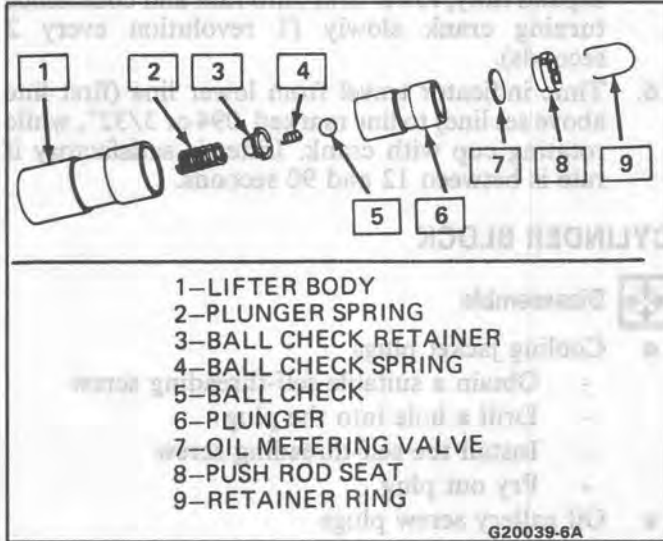
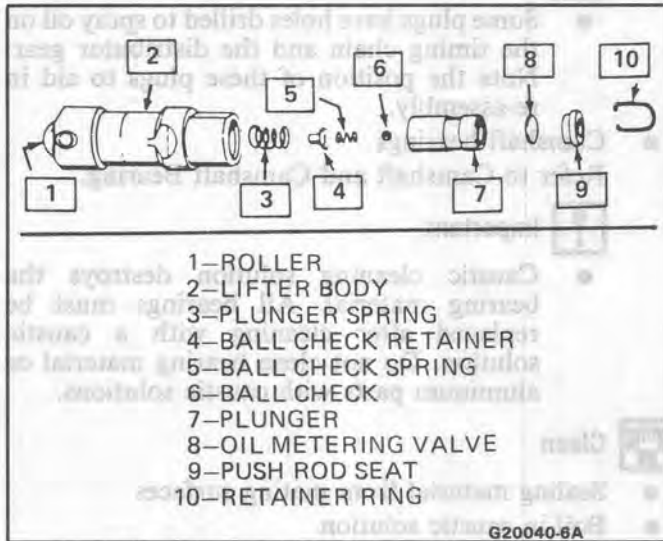

Figure 43 Valve Lifter - Flat Tappet
Figure 44 Valve Lifter - Roller Tappet
- There are two types of valve lifters: a flat tappet hydraulic type (Figure 43) for most engines and a roller tappet type (Figure 44). They function in a similar manner.